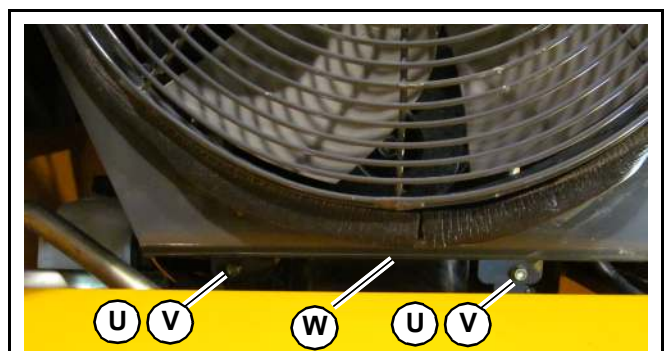

Fig. 335 – Connect Lower Fan Shroud
22. Install fan shroud (W, Fig. 335) to rear engine mounts using two locknuts (U) and two carriage bolts (V). Tighten securely.